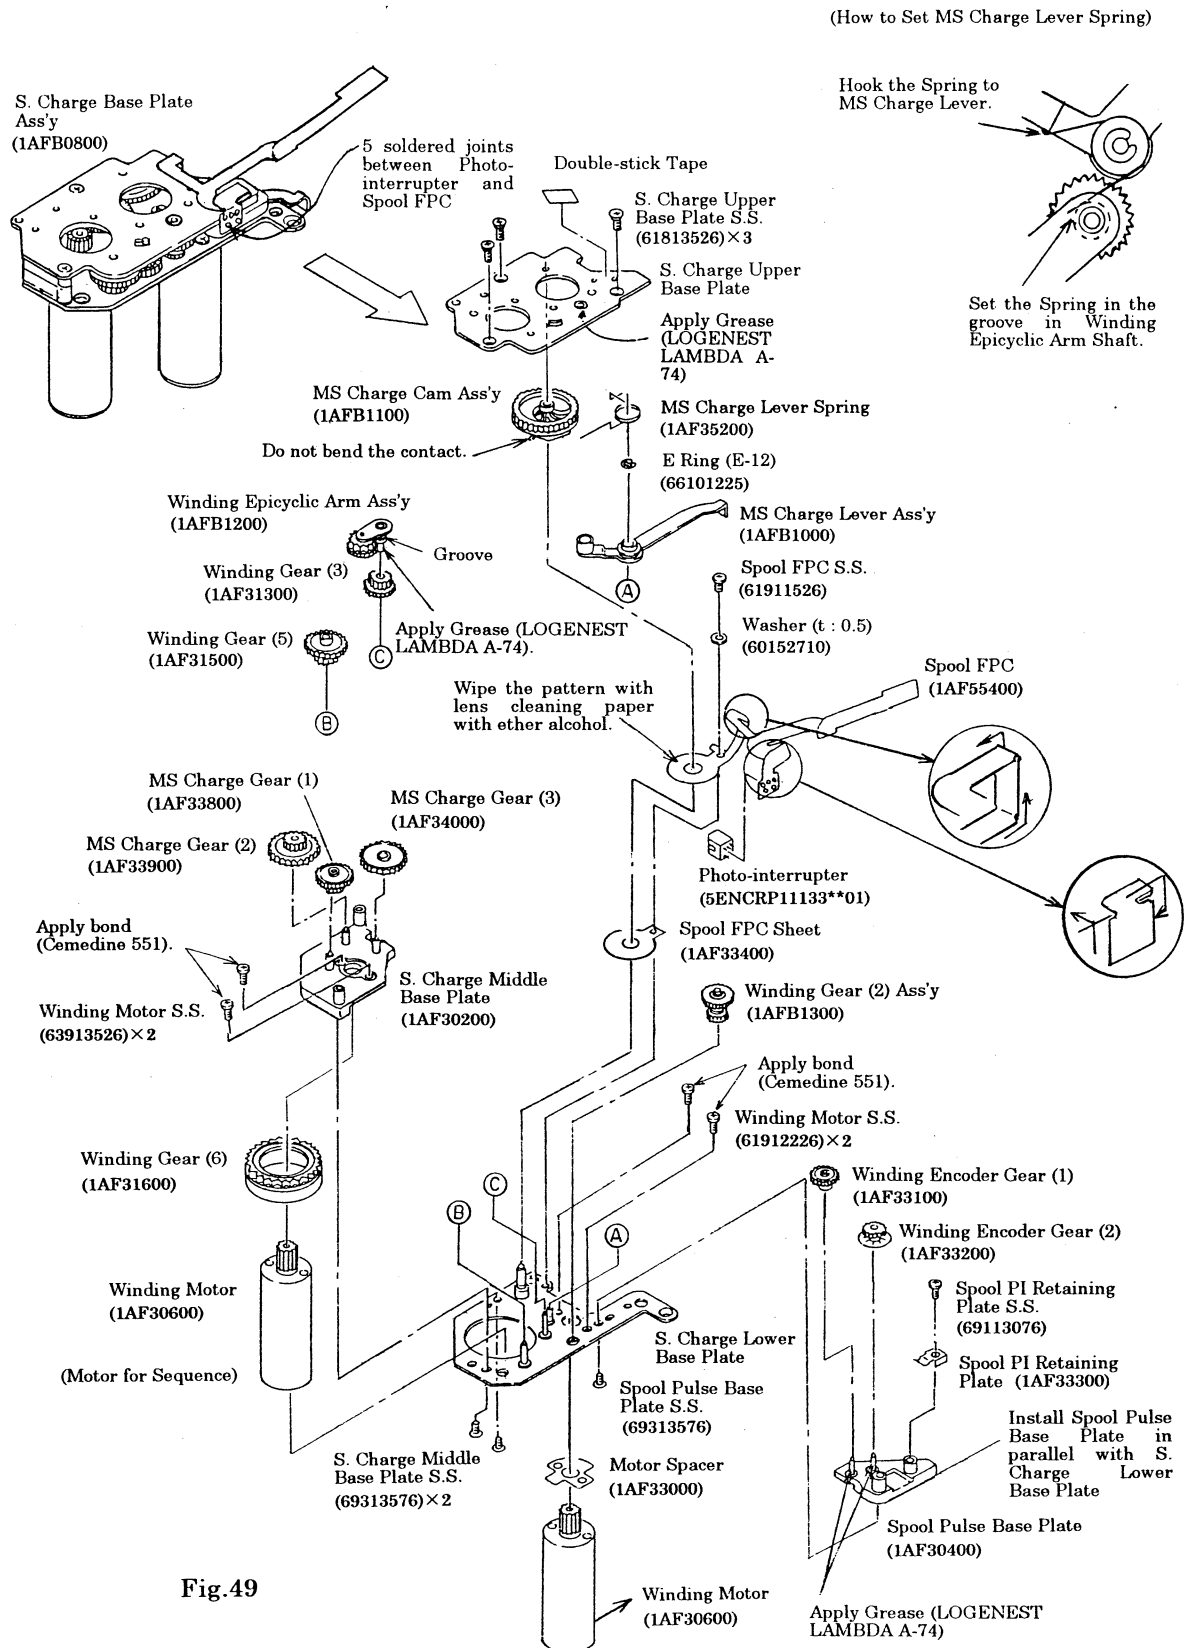

Fig.49
(See Fig. 49)
- b) When installing the Winding Motor, tighten the Winding Motor Setscrews while pushing the Winding Motor in the direction of the arrow as shown in Fig. 49.
- c) Form the Spool FPC as shown in Fig. 49 before installing it.